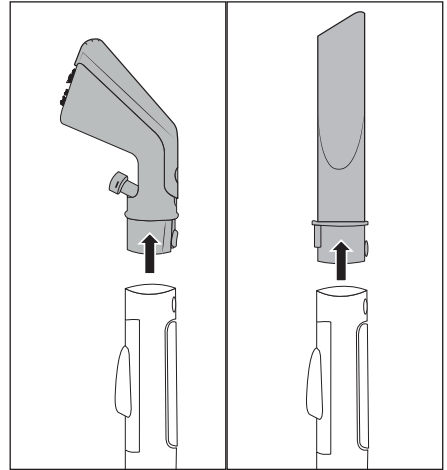

Fig. 8
- ◆ Press the locking button **25/32** and pull the upholstery nozzle **22** or crevice nozzle **29** off the spray/suction hose **19** (see Fig. 8).